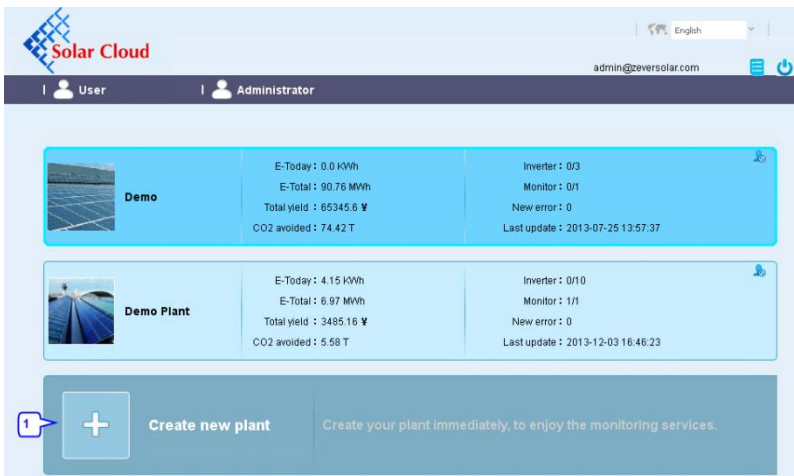

Fig. 8-2: Setting up a new PV plant
Step2: Input your user name and password in the area marked with a "1" in Fig. 8-1 to login to Solarcloud. After you login successfully, you will enter the page with a PV plant list as shown in Fig. 8-2.
Step3: Click Position 1 in Fig. 8-2 to enter the PV plant establishing page as shown in Fig. 8-3. Follow the prompts on the page to establish a PV plant.